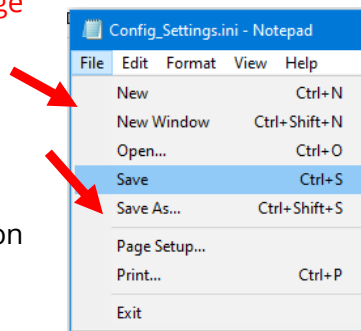

Figure 3
- When finished, Click on File and Save (see Figure 3). The file name **MUST** be **Config\_Settings.ini**.